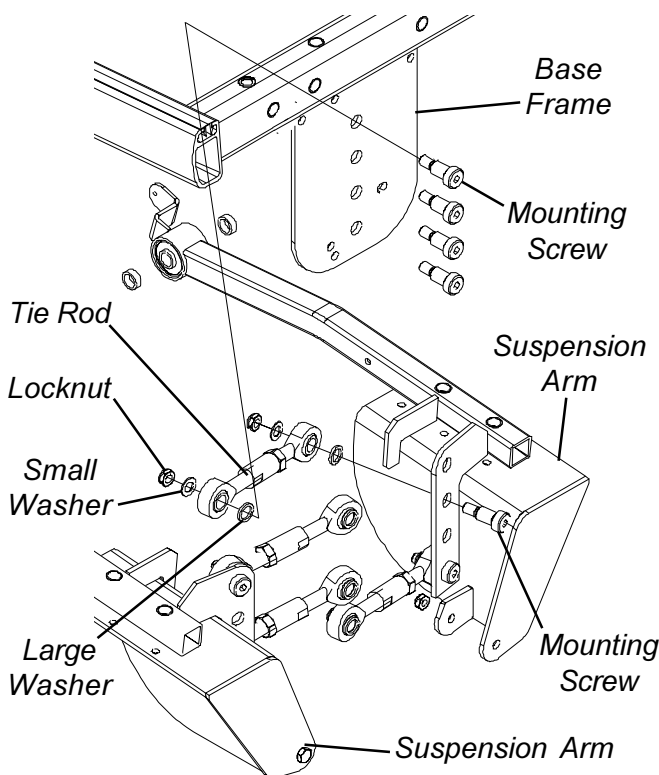

FIGURE 8 - TIE ROD ASSEMBLIES
**TIE ROD REPLACEMENT (FIGURE 8)**